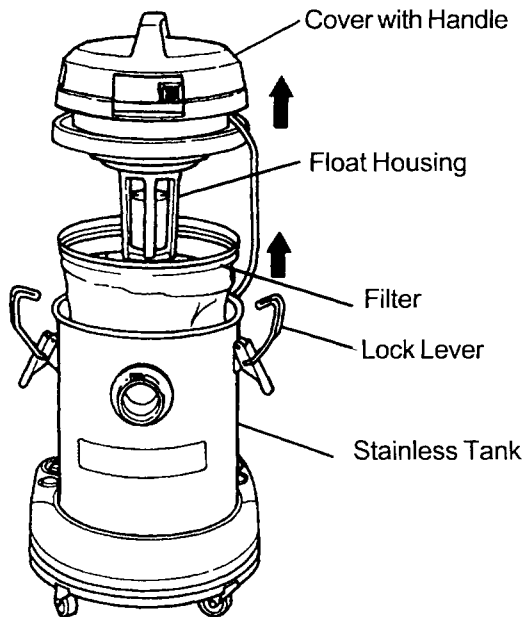
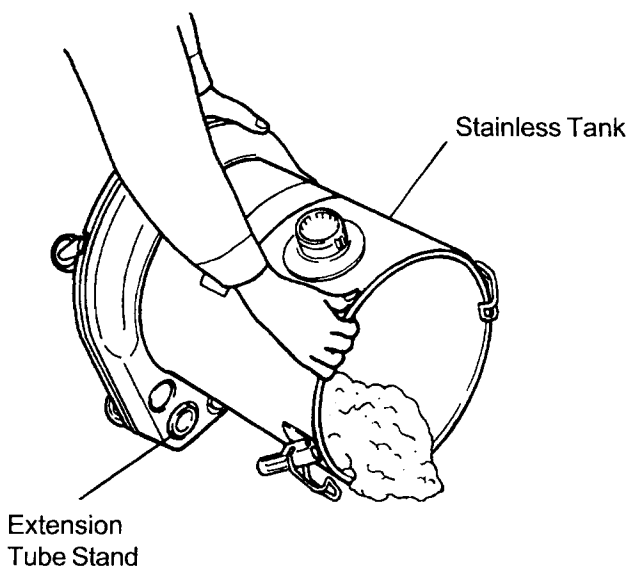

Fig. 8
Fig. 9
- (1) Remove the two lock levers and lift the cover with handle up. (Fig. 8)
- (2) Lift up the filter in the stainless tank, gently tap the inner side of the filter a few times to knock off any dust sticking to the filter, then remove the filter.
- (3) Throw away the dust in the stainless tank. (Fig. 9).
- (4) Return the parts to their original positions.